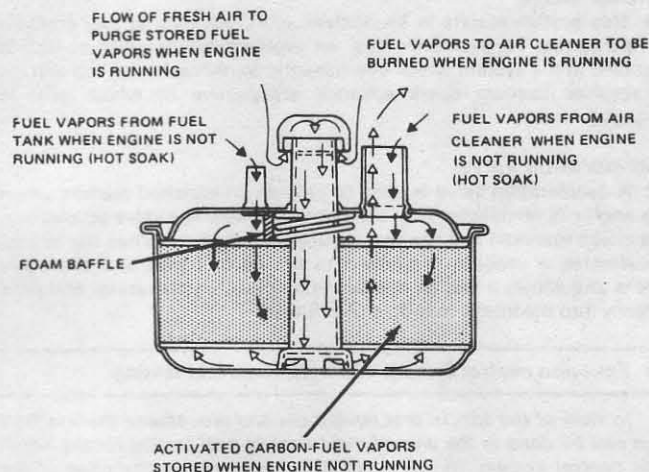

Fig. 3.64 Cross-section view of carbon canister (Sec. 29)
- 6 This system is designed to limit the emission of fuel vapors to the atmosphere. It comprises the fuel tank, pressure and vacuum sensitive fuel filler cap, a restrictor bleed orifice, a charcoal canister and the associated connecting lines (Fig. 3.64).